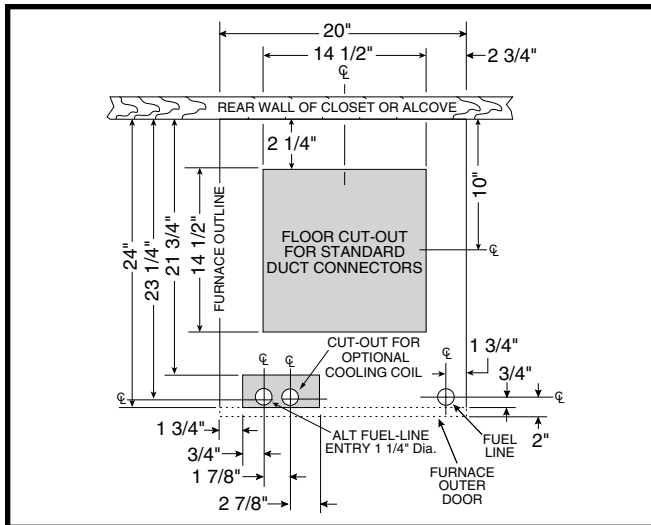
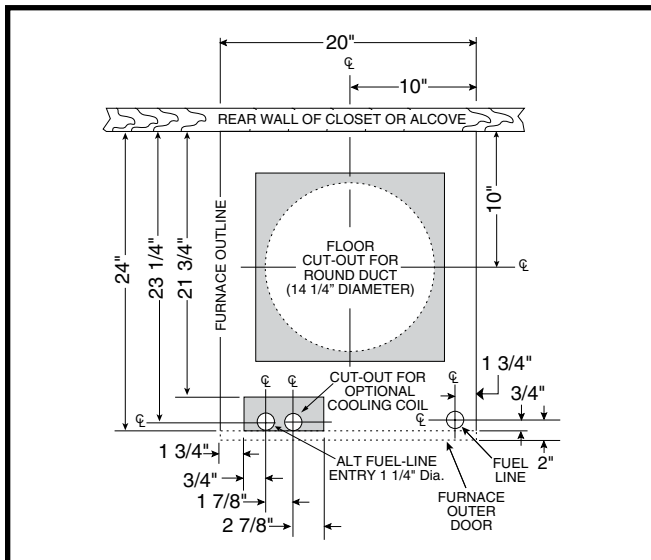

Figure 6. Cut-Out Dimensions for Standard Duct Connectors
Figure 7. Cut-Out Dimensions for Round Duct Connectors
Floor cut-outs and fuel line holes must be carefully located to avoid misalignment of the furnace, and vent piping. To locate standard ducts see Figure 6 (page 7). For round ducts, see Figure 7 (page 7).
2. Using the centerline as a starting point, draw the rest of the duct cut-out to the dimensions shown in Figure 6 or Figure 7.
- Measure and drill gas hole and cut out for cooling coil (if applicable). See Figure 6 or Figure 7.